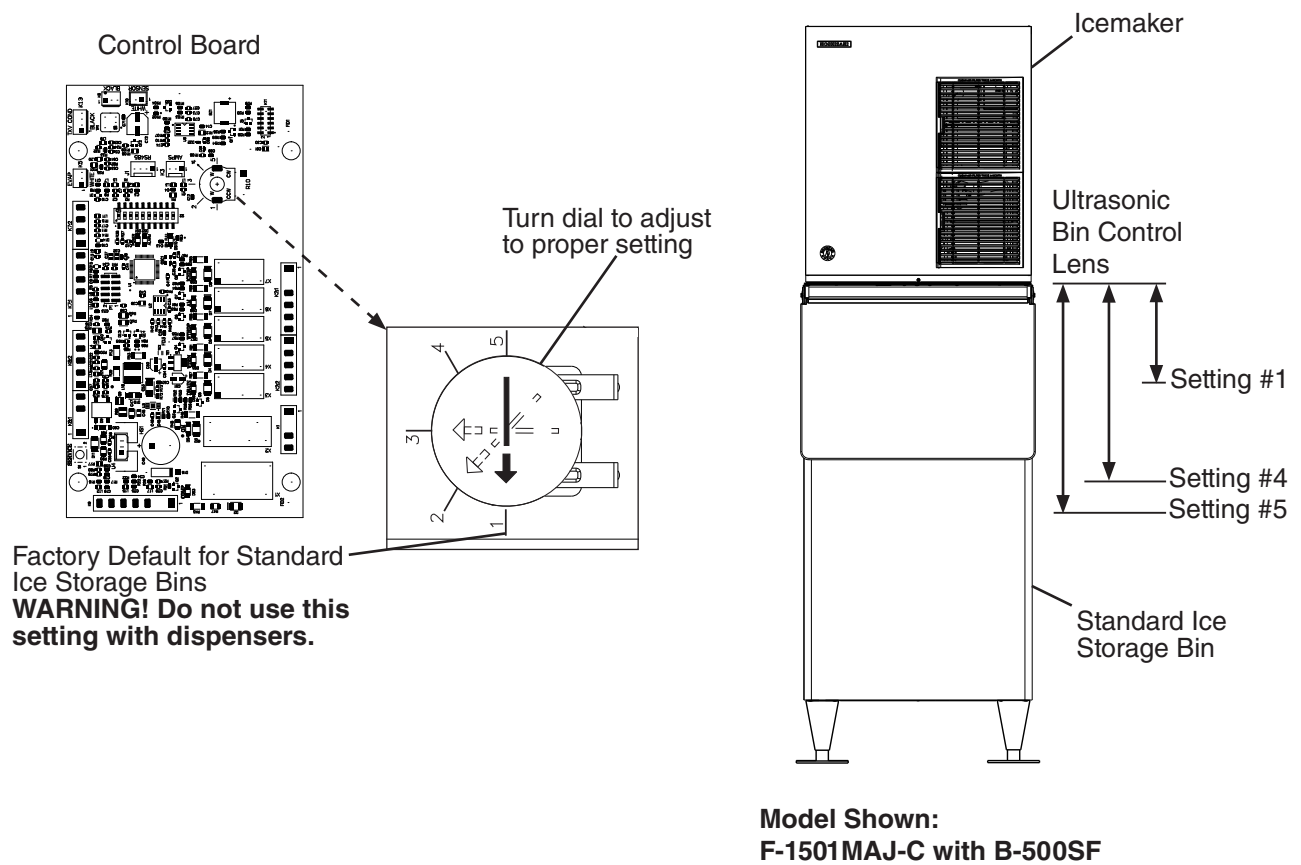
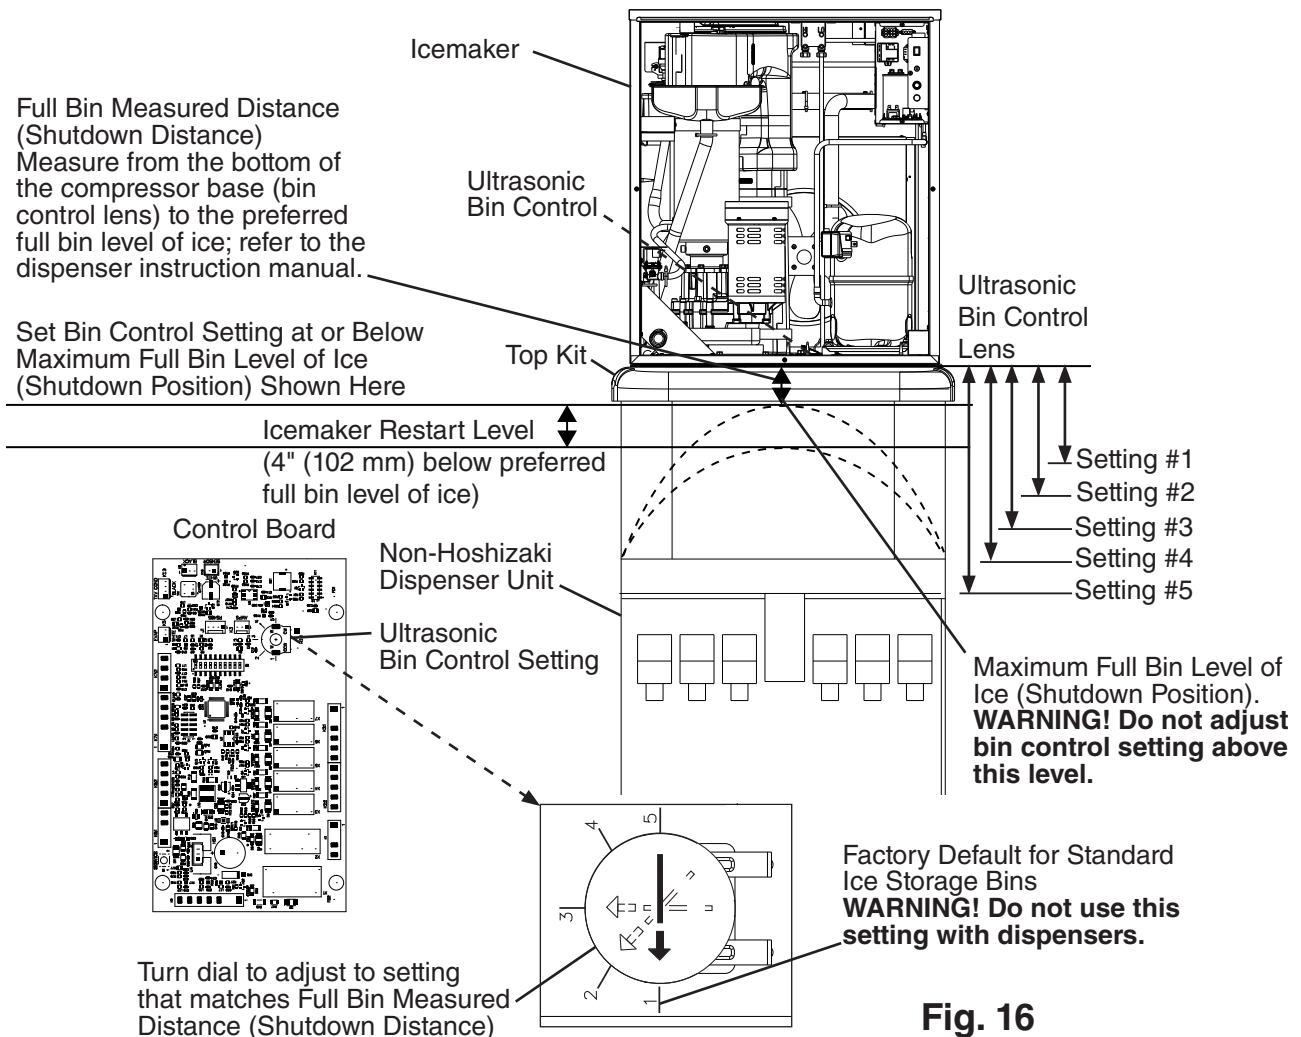

Fig. 15
Fig. 16
- 2) Confirm the correct control board bin control setting required for your application and adjust according to the following tables. See Fig. 15 and Fig. 16.